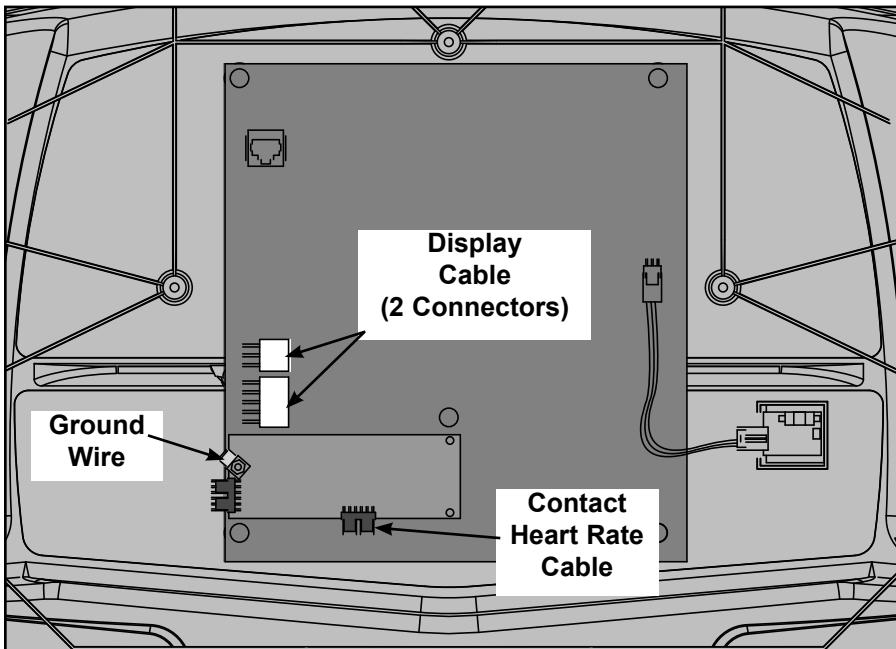

Figure 8
- C. Connect these cables into the display board: the display cable (2 connectors), the contact heart rate cable and the ground wire. See Figure 8.
D. Check to see that all of the cables are connected firmly in their proper place. See Figure 8.